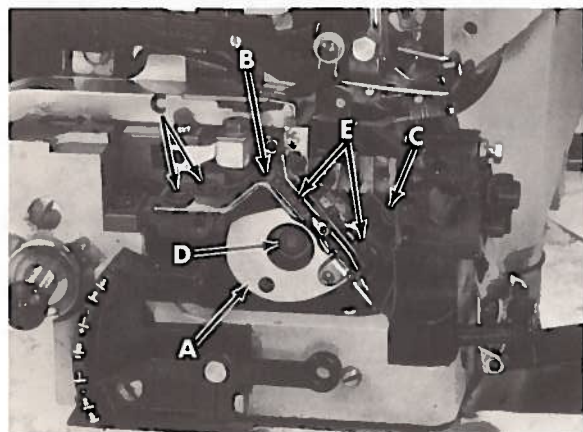

Fig. 28
Thread take-up cam (A, Fig. 28) should be centered in the slot of cast-off support plate (B). Loosen the three mounting screws (C) and position support plate (B) so cam does not rub it while rotating handwheel several revolutions, then tighten screws (C).